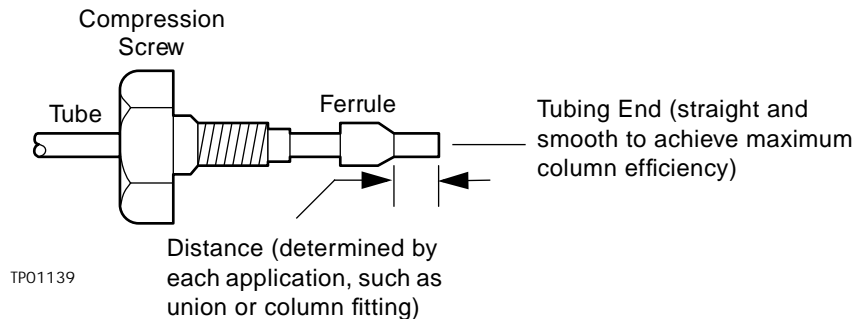

Figure 2-5 Ferrule and Compression Screw Assembly
3. Slide a compression screw and ferrule over one end of the tubing, as shown in Figure 2-5.
2. Slide the compression fitting and ferrule over one end of the 0.040-inch tubing, as shown in Figure 2-5.